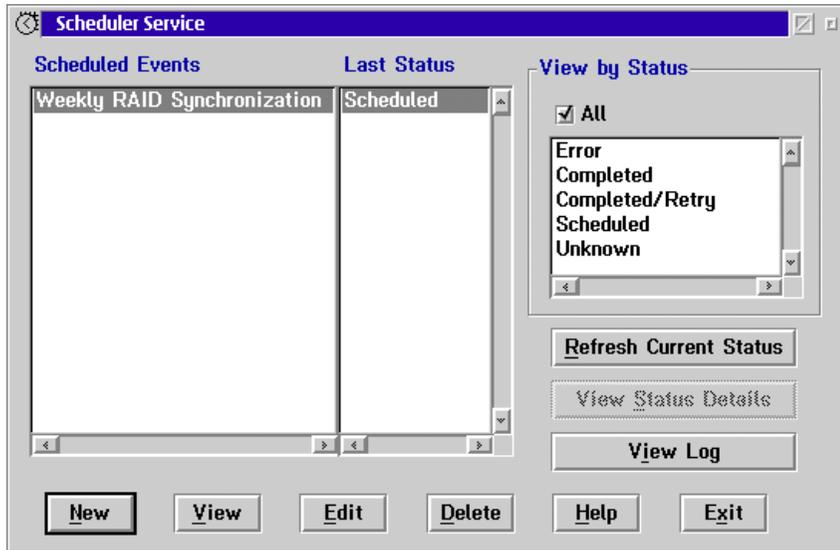

Figure 41. Scheduled Events
7. Click **Save**. Figure 41 appears: